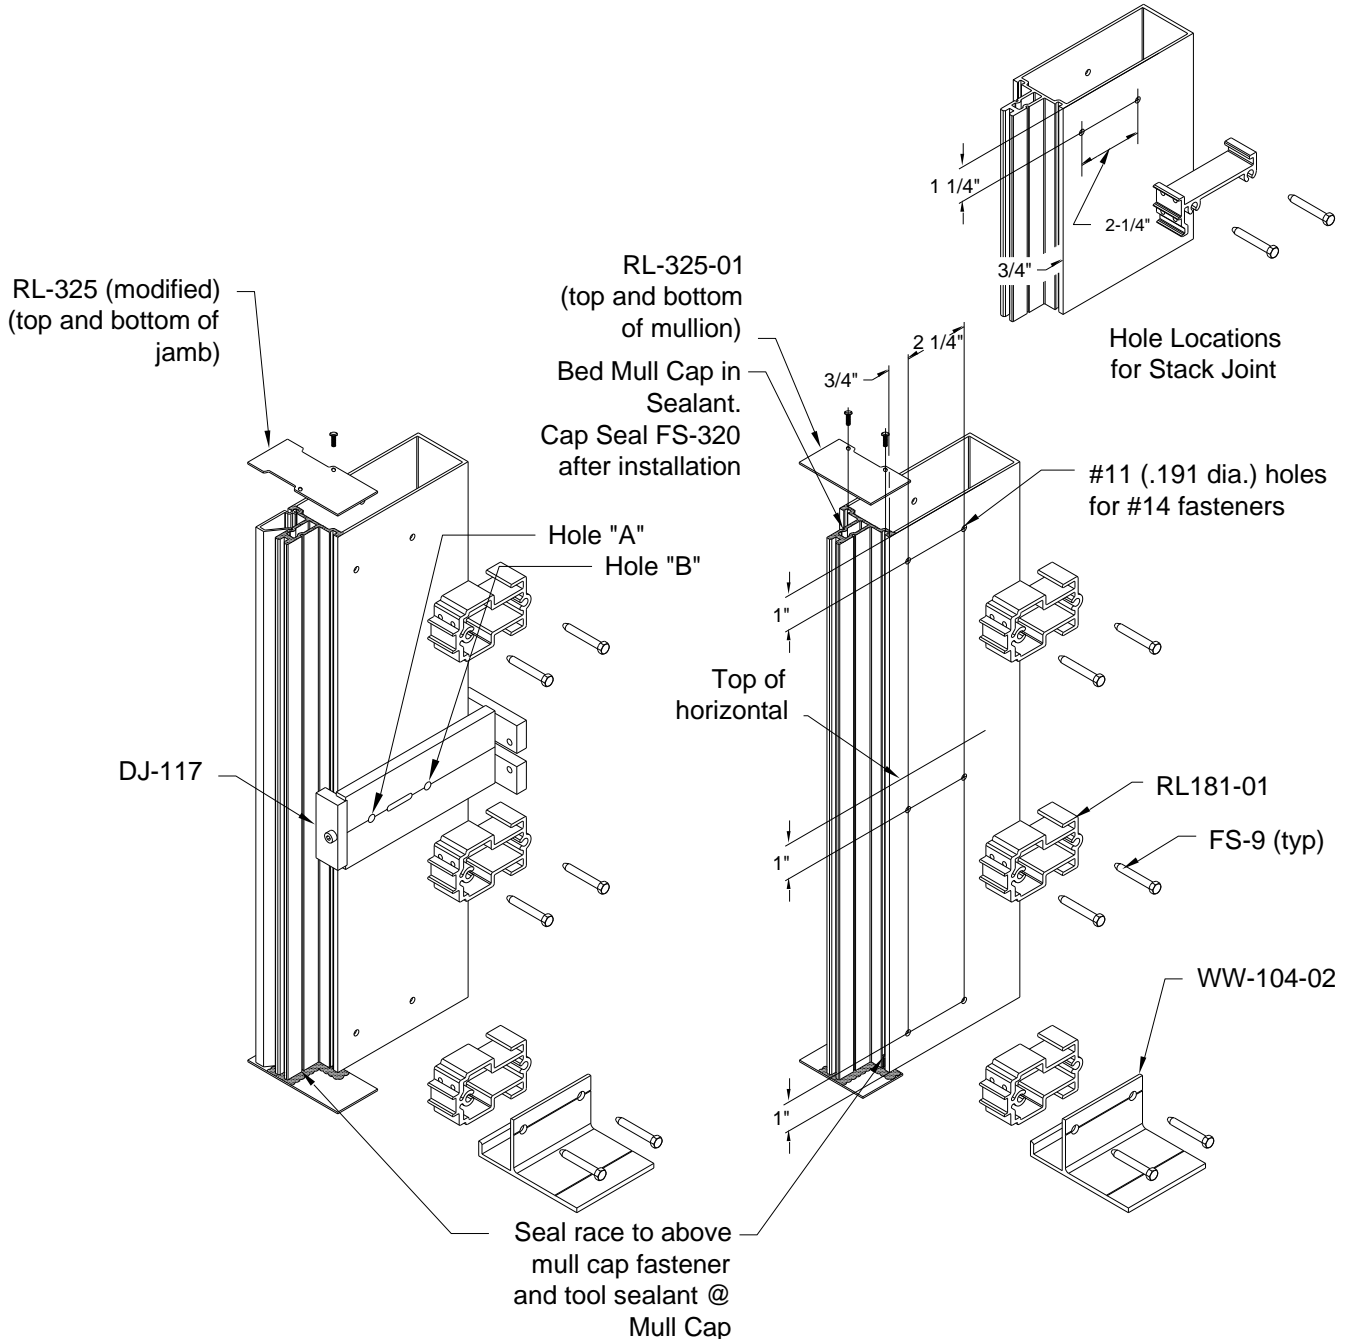

Figure 5: Vertical Mullion Fabrication
- 4.1 Fabricate vertical mullions for horizontal members, using DJ-117 drill jig. Drill holes for shear block using holes marked "A" and "B". See *Figure 5*. When working off horizontal centerlines, use the slot milled into the drill jig to align the jig with the centerline.
- 4.2 Install and seal end caps to top and bottom of all jamb and intermediate vertical mullions with (2) FS-320 fasteners (only (1) required at jambs). See *Figure 5*.